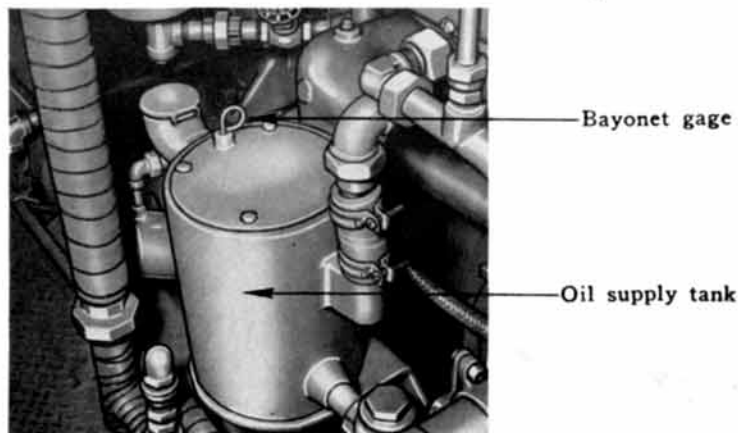

Fig. 40
6. The power plant governor operates under hydraulic oil pressure and a separate oil tank is furnished for governor operation. Maintain the oil level in the tank at $2/3$ full, using the bayonet gage to check height of oil. The tank is located on the left side of the locomotive at the air compressor end of the diesel engine, directly below the power plant governor. See Fig. 40.